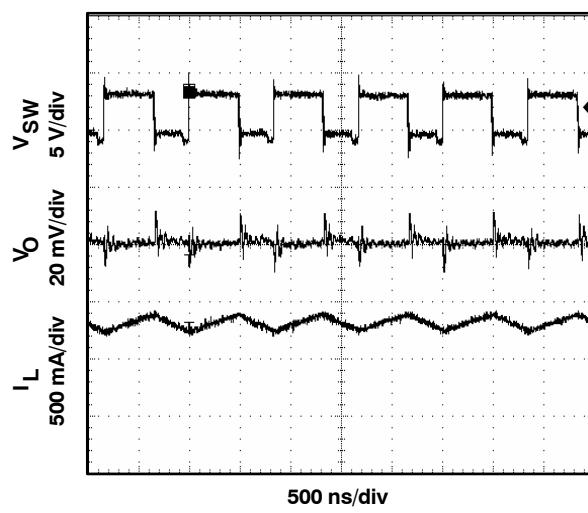
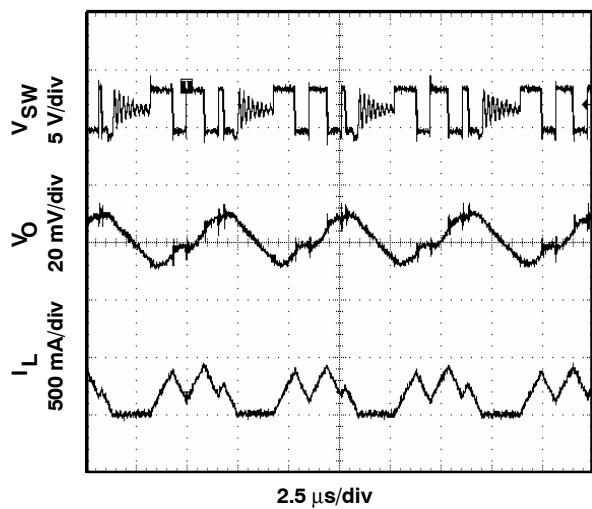
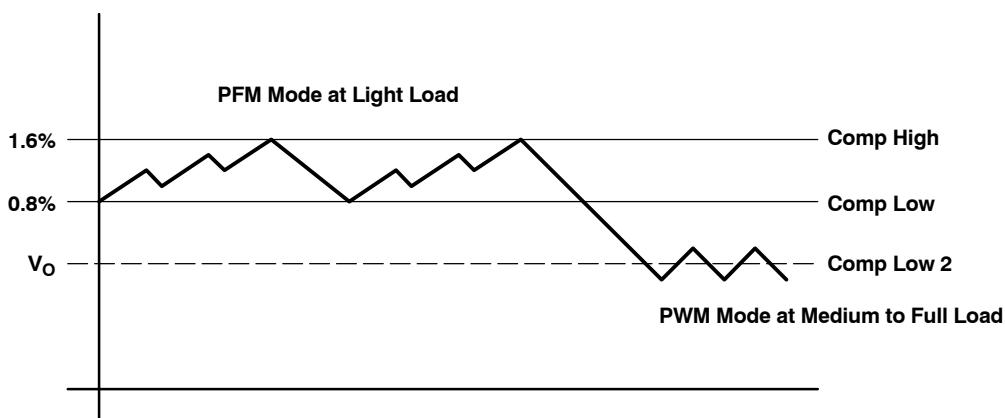

Figure 11
Figure 12
Figure 14. Power Save Mode Thresholds and Dynamic Voltage Positioning
During power save mode the output voltage is monitored with the comparator by the threshold's comp low and comp high. As the output voltage falls below the comp low threshold set to typically 0.8% above the nominal output voltage, the P-channel switch turns on. The P-channel switch remains on until the transition current (1) is reached. Then the N-channel switch turns on completing the first cycle. The converter continues to switch with its normal duty cycle determined by the input and output voltage but with half the nominal switching frequency of 625-kHz typ. Thus the output voltage rises and as soon as the output voltage reaches the comp high threshold of 1.6%, the converter stops switching. Depending on the load current, the converter switches for a longer or shorter period of time in order to deliver the energy to the output. If the load current increases and the output voltage can not be maintained with the transition current , equation (1), the converter enters PWM again. See Figure 11 and Figure 12 under the typical graphs section and Figure 14 for power save mode operation. Among other techniques this advanced power save mode method allows high efficiency over the entire load current range and a small output ripple of typically 1% of the nominal output voltage.
Setting the power save mode thresholds to typically 0.8% and 1.6% above the nominal output voltage at light load current results in a dynamic voltage positioning achieving lower absolute voltage drops during heavy load transient changes. This allows the converter to operate with small output capacitors like 22 μF and still having a low absolute voltage drop during heavy load transient. Refer to Figure 14 as well for detailed operation of the power save mode.
As described in the power save mode operation sections before and as detailed in Figure 14 the output voltage is typically 0.8% (i.e., 1% on average) above the nominal output voltage at light load currents, as the device is in power save mode. This gives additional headroom for the voltage drop during a load transient from light load to full load. In the other direction during a load transient from full load to light load the voltage overshoot is also minimized by turning on the N-Channel rectifier switch to pull the output voltage actively down.